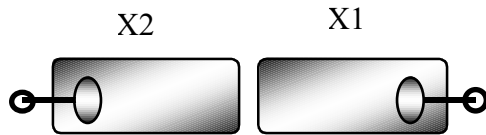

Figure 4-1
- ☐ Referring to Figure 4-1, insert bare wires into the grounding holes provided near X1 and X2. Fold each wire over the top of the crystal and solder it on top. Keep soldering time below 5 seconds at a time; if it takes longer, your iron may not be hot enough, or your iron tip may not be making good contact with the crystal can. Solder and trim the wires on the bottom of the board.